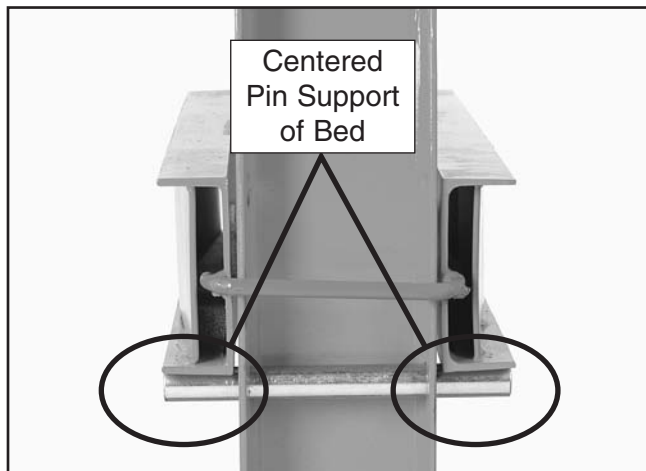

Figure 14. Bed support pin positioning.
14. With the help of your assistant, grasp the bed lift handles and raise the bed to a position of your choice. Then install the support pins, as shown in **Figure 14**.
15. Adjust the bed support pins so they are centered and the bed is supported equally at all four corners, as shown in **Figure 14**.